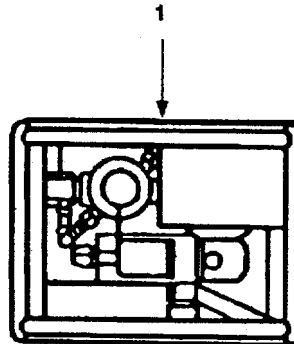

Figure 4-14. Hypochlorination Unit, Model 1955-1 Replacement.
4.13.1.1 Removal. Placing the hypochlorination unit (Figure 4-14, 1) in the equipment conditions specified above will remove the hypochlorination unit (1) from the TWDS.